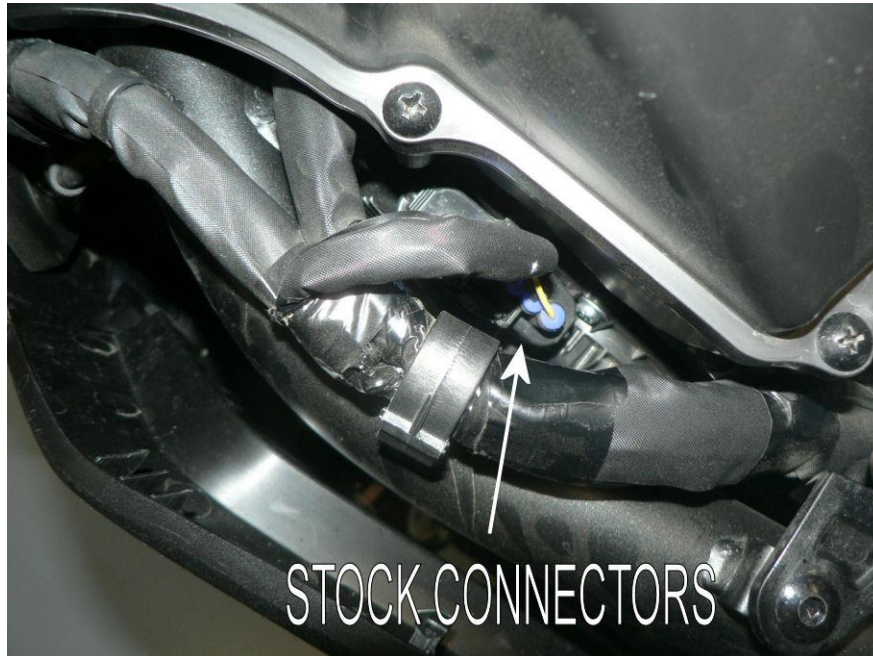

Fig.5
8. On the left side of the motorcycle, locate the BLACK 6-way connector from the Throttle Position Sensor. (Fig.5).